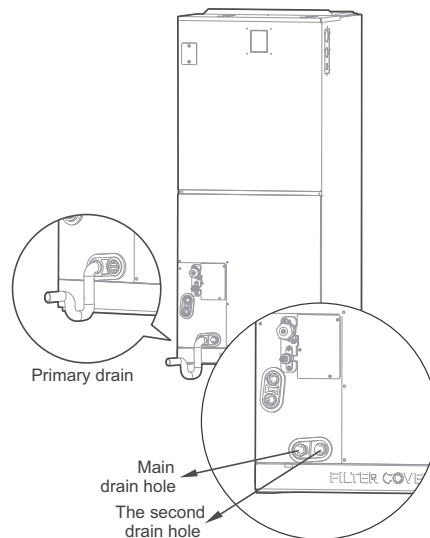

Fig. 13 — Vertical Discharge
- Figure 13 shows how to trap or plug all drains during vertical discharge.